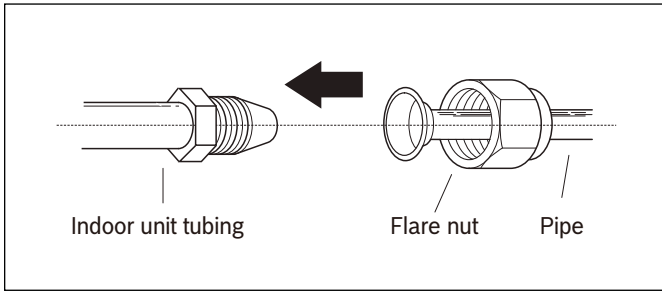

Figure 30
1. Align the center of the two pipes that you will connect. See Figure 30.